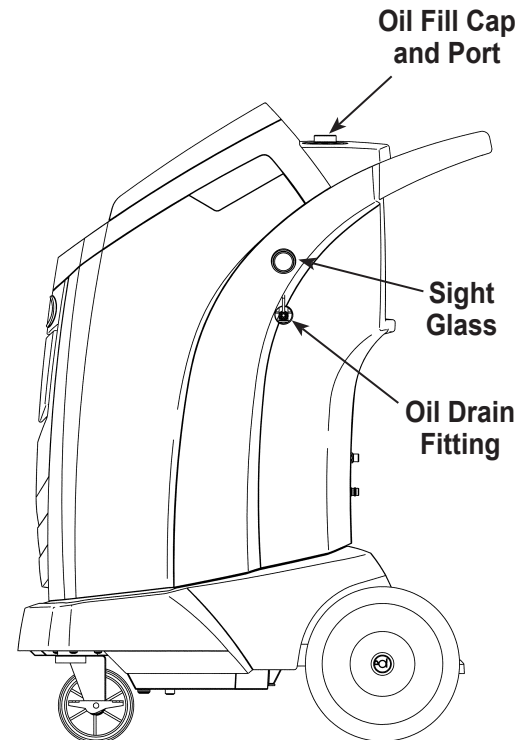

Figure 9
3. **Slowly** open the oil fill cap to verify there is no pressure in the machine. Then carefully remove the cap. See Figure 9.